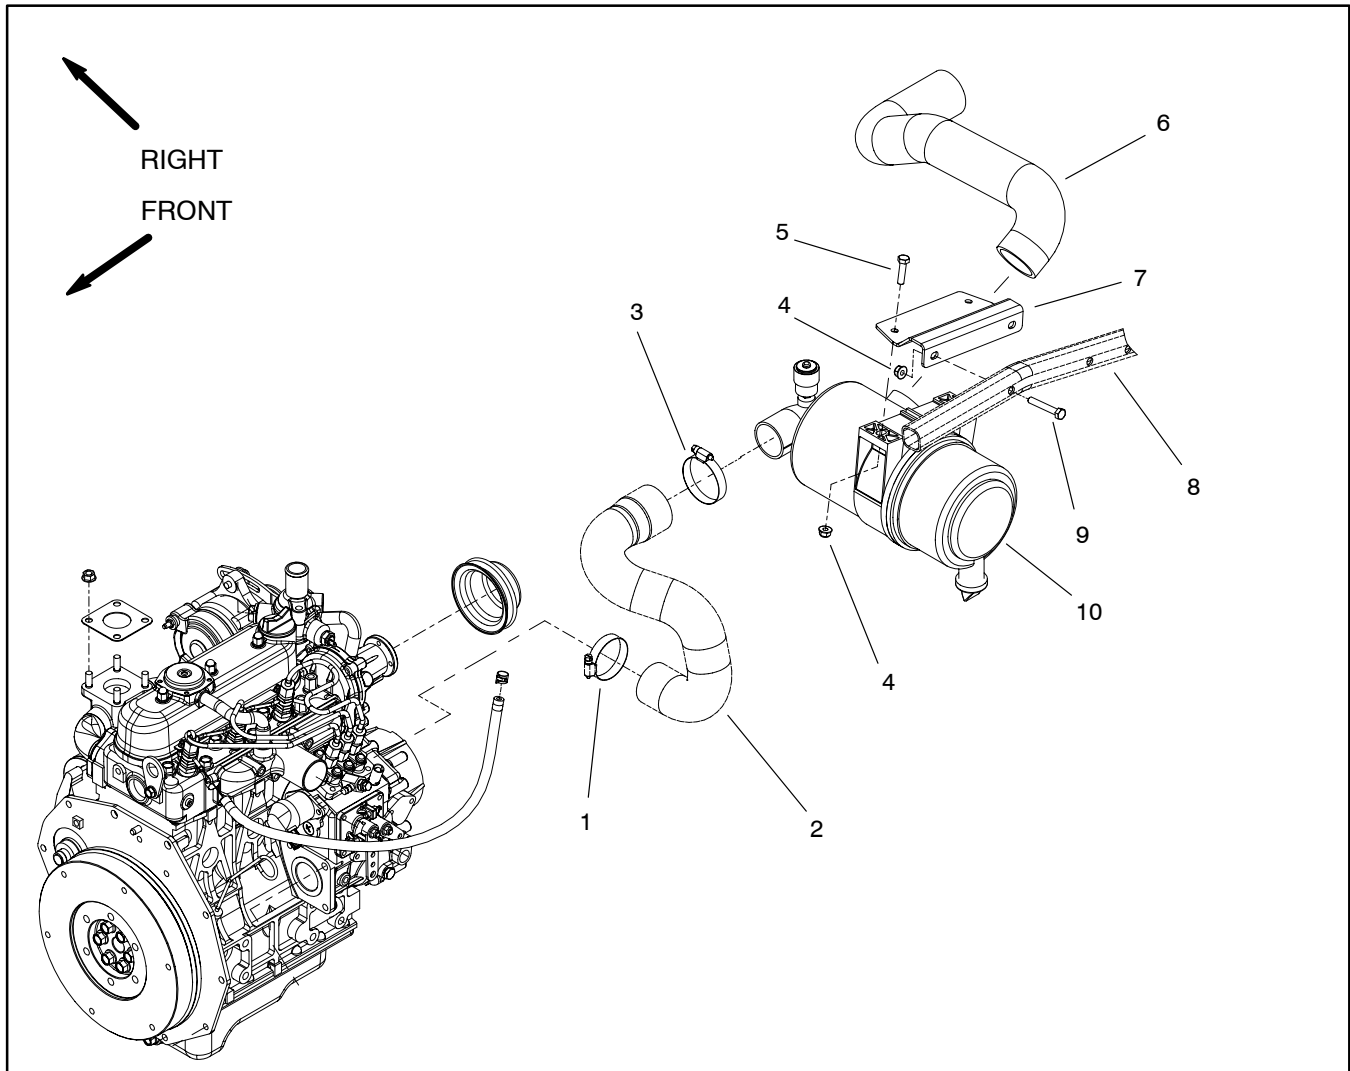

Figure 3
### Removal (Fig. 3)
3. Remove air cleaner components as needed using Figures 3 and 4 as guides.
### Installation (Fig. 3)
1. Assemble air cleaner system using Figures 3 and 4 as guides.